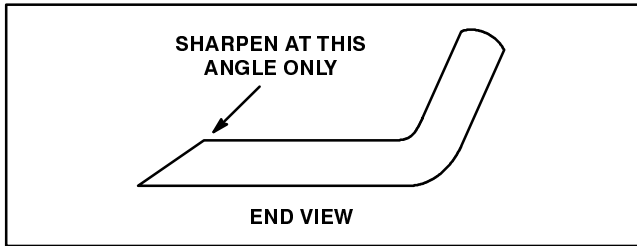

Figure 32
- Examine cutting edges of all blades. Sharpen the cutting edges if they are dull or nicked. Sharpen only the top side of the cutting edge and maintain the original cutting angle to assure sharpness (Fig. 32). The blade will remain balanced if same amount of metal is removed from both cutting edges.